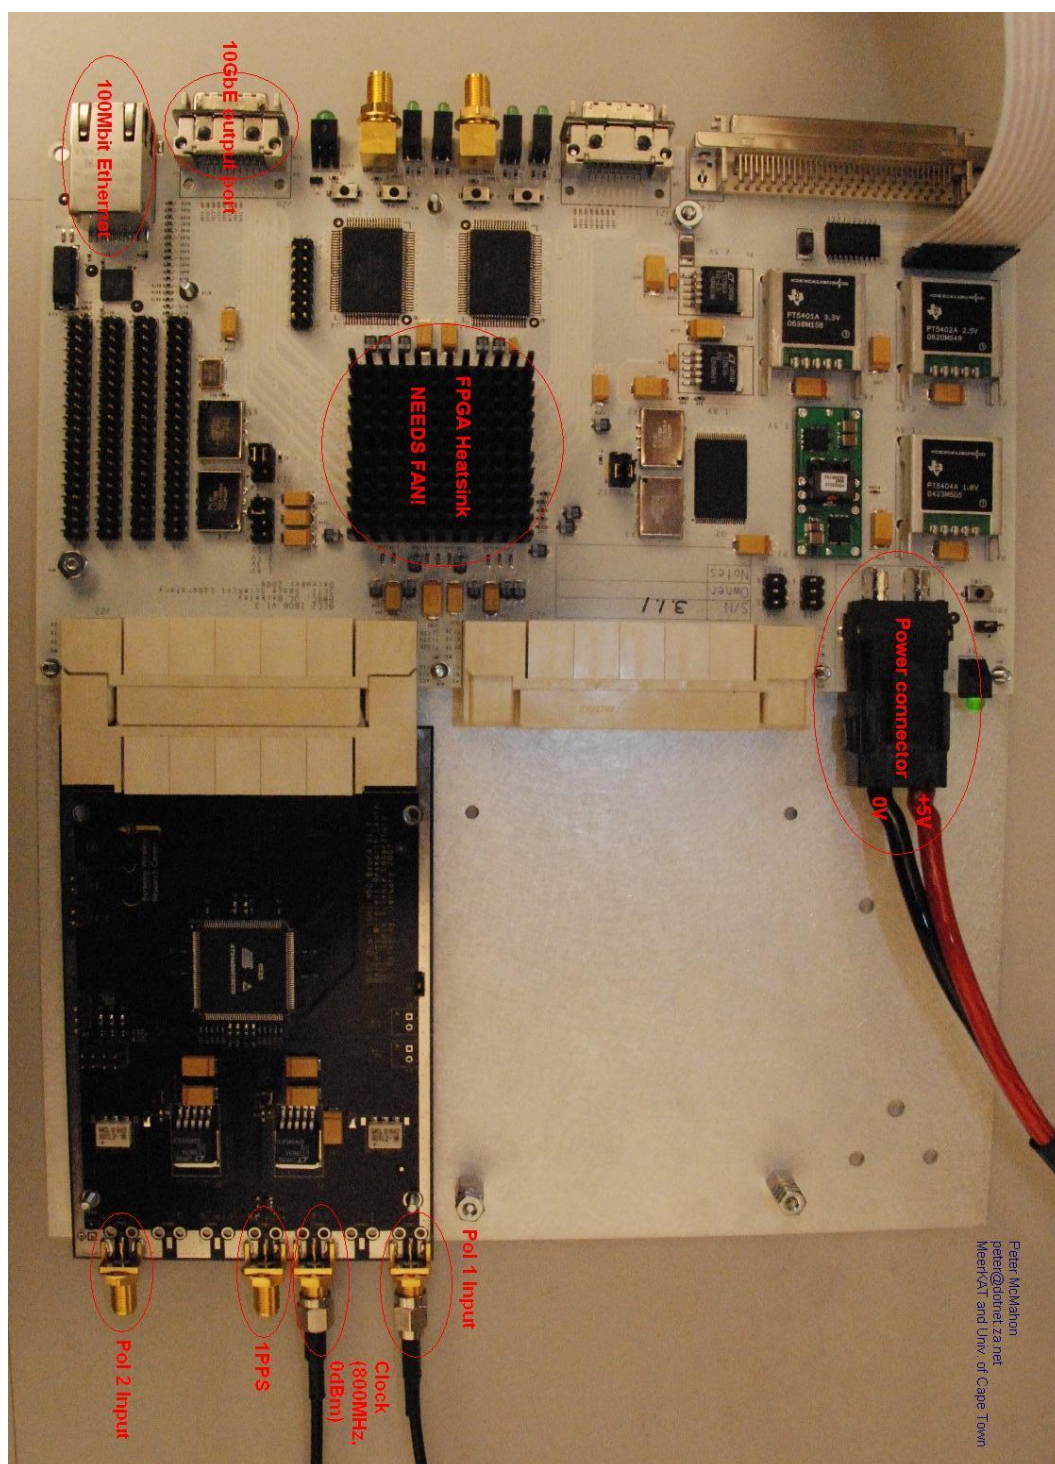

Figure 1: IBOB with labeled connectors and ports.
Figure 1 shows an IBOB with labels on the relevant connectors and ports required for setting up the Parspec. To set up the hardware, perform the following steps:
1. Arrange airflow2 for IBOB FPGA. This can take the form of a fan directly mounted on the heatsink, or a fan blowing from bottom-to-top or top-to-bottom over the heatsink (left-to-right, or right-to-left in Figure 1).